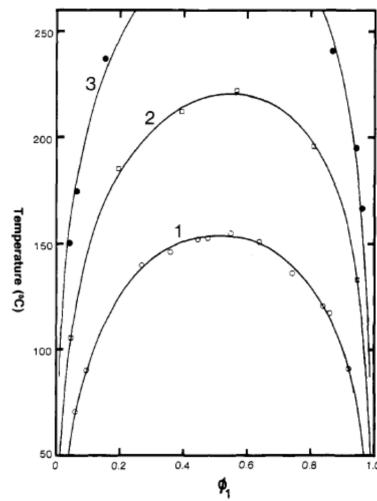

Figure 2.13: Binodal curves for PS-PB blends at almost symmetric compositions.
- This leads to the melt condition in which excluded volume effects are largely washed out, and hence phase diagrams (as in Figure 2.13) look quite similar to those for a solvent-solvent mixture.